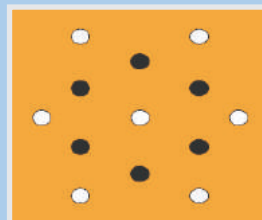

Figure 2 : Side B of the Model
On the bottom side (B), holes are drilled at the vertices and centre of regular hexagons, as shown in (Fig 2)